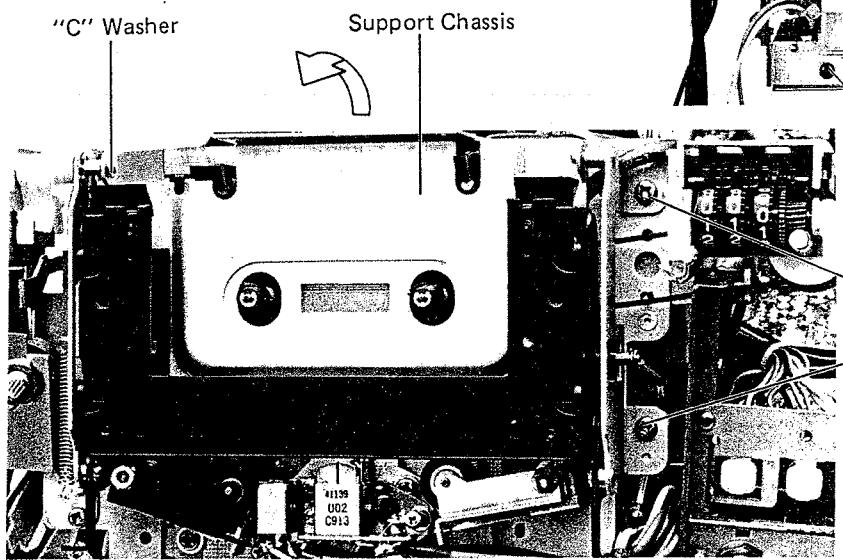

Figure 13
- (1) Remove one “C” washer and two screws marked “#” as shown in Figure 13.
- (2) Lay down the support chassis in the direction of the arrow as shown in Figure 13.
- (3) Remove the counter belt.